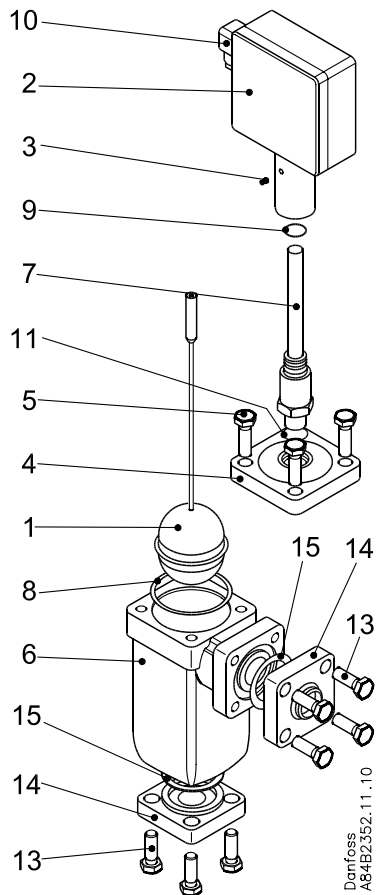
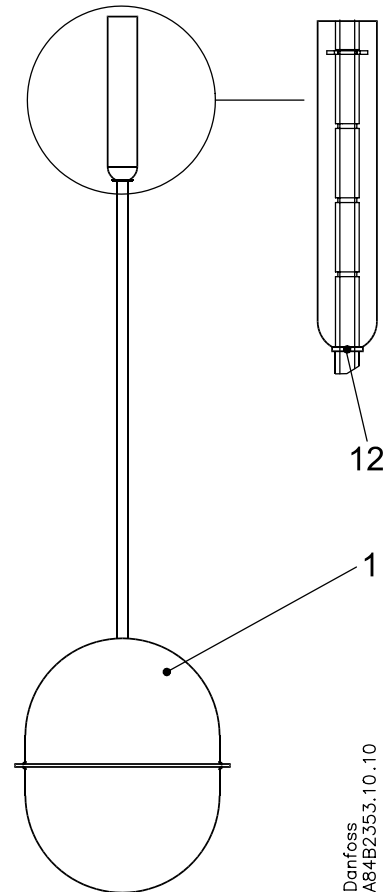

Fig. 3
Fig. 4
Remove the AKS 38 switch box (fig. 3, pos. 2).
- Unfasten the M4x8 (fig. 3, pos. 3) pinol tailstock screw with a Allen key.
Remove the AKS 38 housing top cover (fig. 3, pos. 4).
- Unfasten the 4 × M12x35 stainless steel bolts (fig. 3, pos. 5).
- Remove the complete top cover including installed pressure tube (fig. 3, pos. 7).
Remove the complete float assembly (fig.3, pos. 1 and fig. 4, pos. 1) from the AKS 38 housing (fig. 3, pos. 6).
- Refit the float assembly back into the AKS 38 housing (fig. 3, pos. 6).
- Reinstall the complete top cover (fig. 3, pos. 4) and fasten the 4 × M12x35 bolts (fig. 3, pos. 5). Max. tightening torque: 74 Nm (100 ft-lb).
- Reinstall the switch box (fig. 3, pos. 2) by slowly forcing it down over the pressure tube (fig. 3, pos. 7).
- Position the switch box (fig. 3, pos. 2) as required and fasten the M4x8 pinol tailstock screw (fig. 3, pos. 3) with a Allen key.
Replacing the internal float assembly (fig. 3, pos. 1)
- Unscrew the stainless steel bolts 4 × M12x35 (fig. 3, pos. 5).
- Remove the top cover (fig. 3, pos. 4) including installed pressure tube (fig. 3, pos. 7) and switch box (fig. 3, pos. 2).
- Remove the internal float assembly (fig 3, pos. 1).
Replacing the top cover gasket (fig. 3, pos. 8)
- Unscrew the 4 × M12x35 stainless steel bolts (fig. 3, pos. 5).
- Remove the gasket (fig. 3, pos. 8).
- Fasten 4 × M12x35 stainless steel bolts (fig. 3, pos. 5). Max. tightening torque: 74 Nm (100 ft-lb).
Replacing the aluminium gasket (fig. 3, pos. 11)
- Unscrew the M4x8 pinol tailstock screw (fig. 3, pos. 3) with a Allen key.
- Remove the switch box (fig. 3, pos. 2) by slowly easing upwards.
- Unscrew the pressure tube (fig. 3, pos. 7) with a 32 mm wrench.
- Remove the aluminium gasket (fig. 3, pos. 11).
Replacing the switchbox (fig. 3, pos 2)